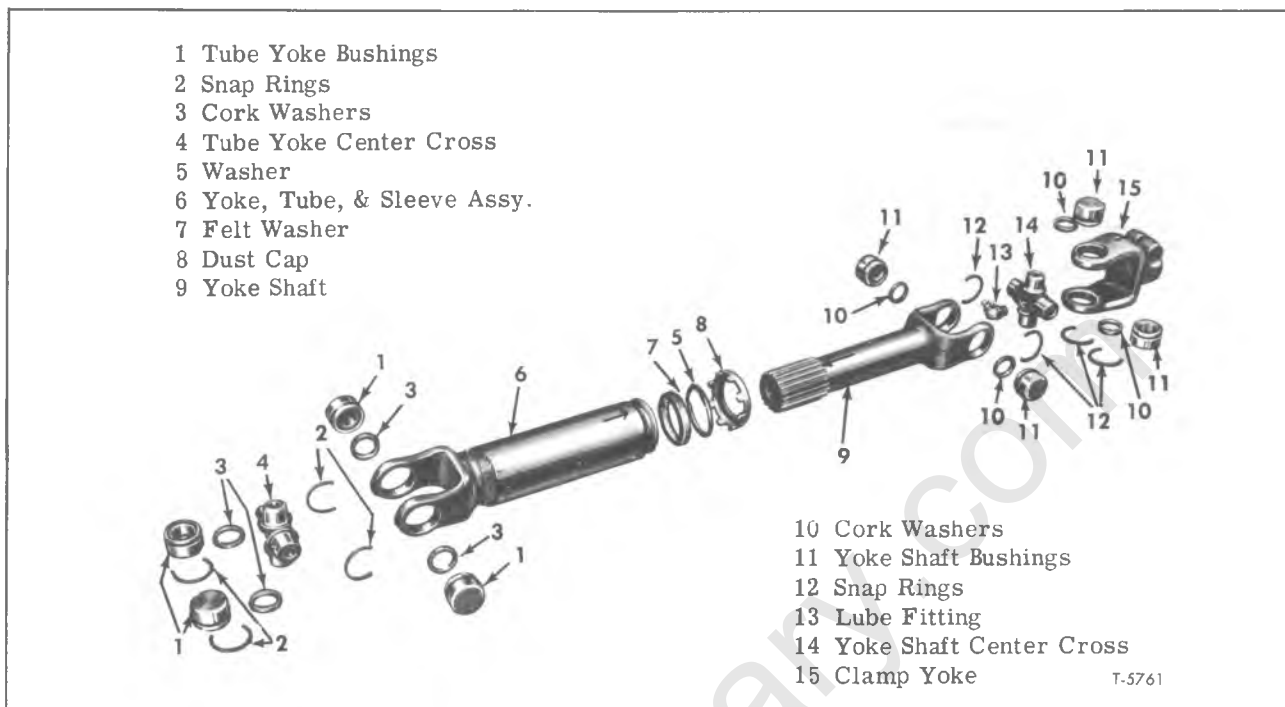
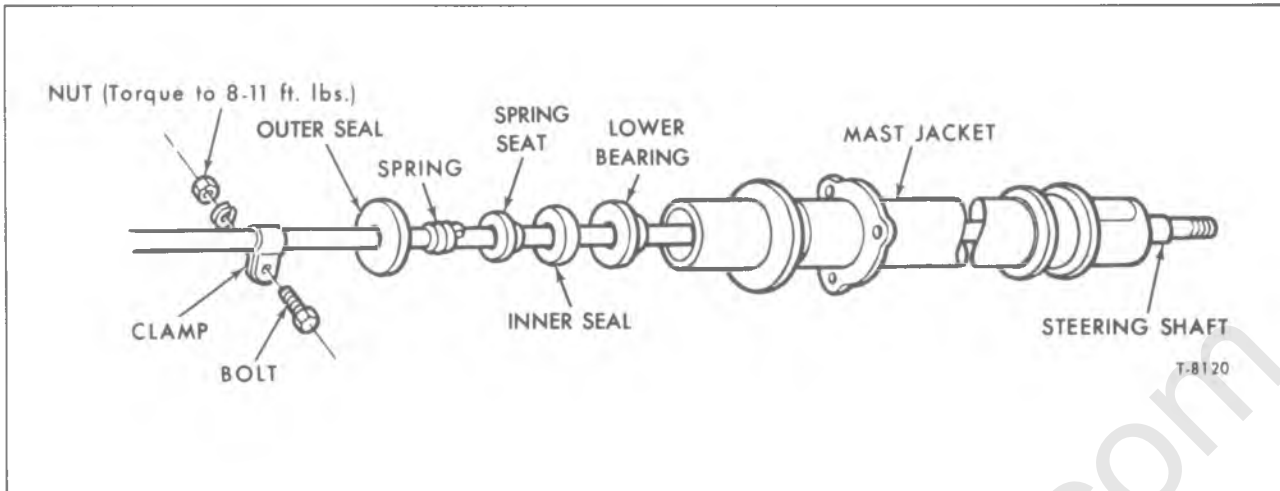
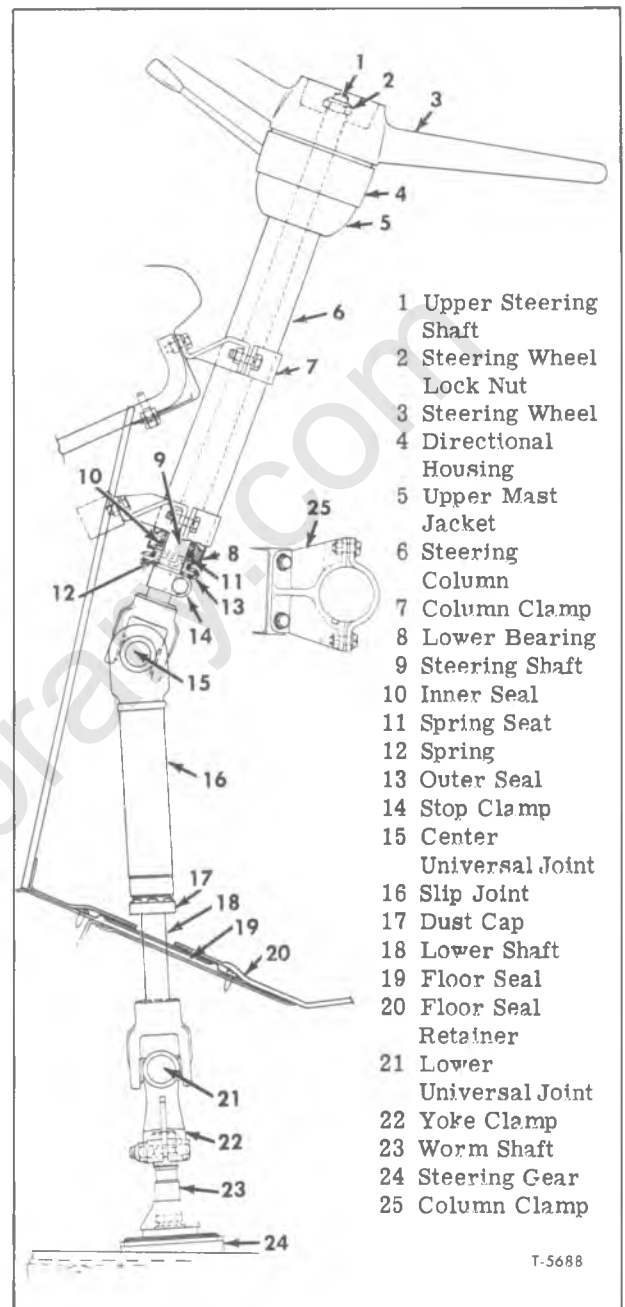

Figure 17—Intermediate Shaft (Typical)
Figure 18—Steering Column Mast Jacket Components (Conventional Cab)
Figure 24—Steering Column and Shaft (Tilt Cab)
REMOVAL (Refer to Figs. 18 and 19)
NOTE: A one-piece steering shaft is used on all cab models (fig. 18) and a two-piece shaft is used on all cowl models (fig. 19).
4. Pull steering shaft (fig. 19) (7) from steering column (5), and pry lower bearing (11) from tube, if bearing is worn or defective. Refer to figure 18 for conventional cab models.
5. Remove bearing inner seal (12), spring seat (13), spring (14) and outer seal assembly (15). Remove stop clamp (16) and bolt, if desired.
6. Referring to figure 17, on vehicles with two-piece shaft, remove snap rings (2) from inside of universal joint. Tap yoke sideways to dislodge bushing (1) of adjoining yoke, repeat operation until all bushings are removed. Remove cork seals (3) from journal and discard.
7. Referring to figure 17, to remove slip yoke (6) from lower shaft assembly (9), bend tabs of dust cap (8) away from retainer groove. Pull shaft (9), felt seal (7), and washer (5) from yoke sleeve (6).
3. On vehicles using two-piece steering column, assemble center universal joint (17), bushings, and seals to yokes, and journal using new repair kit. Lubricate joint when assembled.
5. Referring to figure 17, install tabbed dust cap (8), washer (5), and felt seal (7) on lower splined shaft, and joint assembly. Lubricate and insert splined end of shaft (9) into intermediate slip yoke assembly (6). Crimp ends of dust cap tabs into groove at end of slip yoke.
NOTE: Key numbers in following text refer to figure 24, except as otherwise noted:
NOTE: Key numbers in text refer to figure 24, except as otherwise noted.
4. Remove directional switch housing (4) from column by turning counterclockwise to unlock from tabs.
5. Pull, or pry lower bearing (8) from steering column, if damaged or defective.
6. Remove inner seal (10), spring seat (11), spring (12), outer seal assembly (13), and stop clamp (14) from upper steering shaft.
7. Refer to figure 17 to separate upper and lower steering shafts at joint (15) (fig. 24). Remove two snap rings (2) (fig. 17), and tap yoke sideways to dislodge bushings (1) of adjoining yoke; repeat
8. To remove slip yoke (16) (fig. 24) from lower shaft assembly (18), bend tabs of dust cap (17) away from retainer groove. Pull shaft, felt seal, and washer, from yoke sleeve. Slide components from shaft, and discard seal.
NOTE: Refer to figure 24 for key numbers unless otherwise indicated.
4. At lower steering shaft (18), position floor seal (19), tabbed dust cap (17), metal washer, and new felt seal on splined yoke shaft (18). Lubricate splines lightly. Align arrows on yoke shaft and slip joint tube. Slide shaft into tube and crimp tabs of dust cap into groove in yoke tube.
5. Referring to figure 17, if lower shaft yoke clamp (15) was previously disassembled, assemble, installing new cork seals (10) to cross journal (14), install new bushings (11) and snap ring (12). Press or tap bushings in yoke over cross journals until snap rings can be installed in bushings.
6. Refer to figure 17, position center cross (4), and lower shaft (6) upper yoke in upper shaft yoke. Install all new cork washers (3), on journals (4), install new bushings (1) and snap rings (2). Press or tap bushings in yoke over cross journals until snap rings can be installed in bushings.
7. Slide stop clamp (14), outer seal (13), spring (12), spring seat (11) and inner seal (10) on upper shaft. Insert upper shaft into lower steering column bearing (8), and push upward through upper bearing until shaft extends past top of mast jacket.
INSTALLATION OF COLUMN AND SHAFT (Refer to Fig. 24)